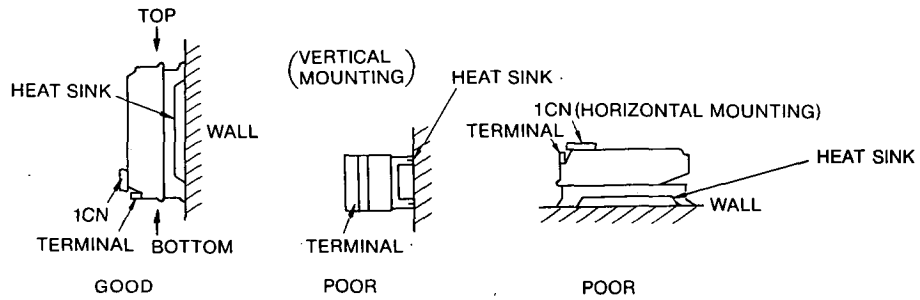

Fig. 9.5 Mounting Direction
(3) Mounting Direction
Mount the unit vertically on the wall using the mounting holes (4) on the base plate, with main terminals at the bottom. (Fig. 9.5)